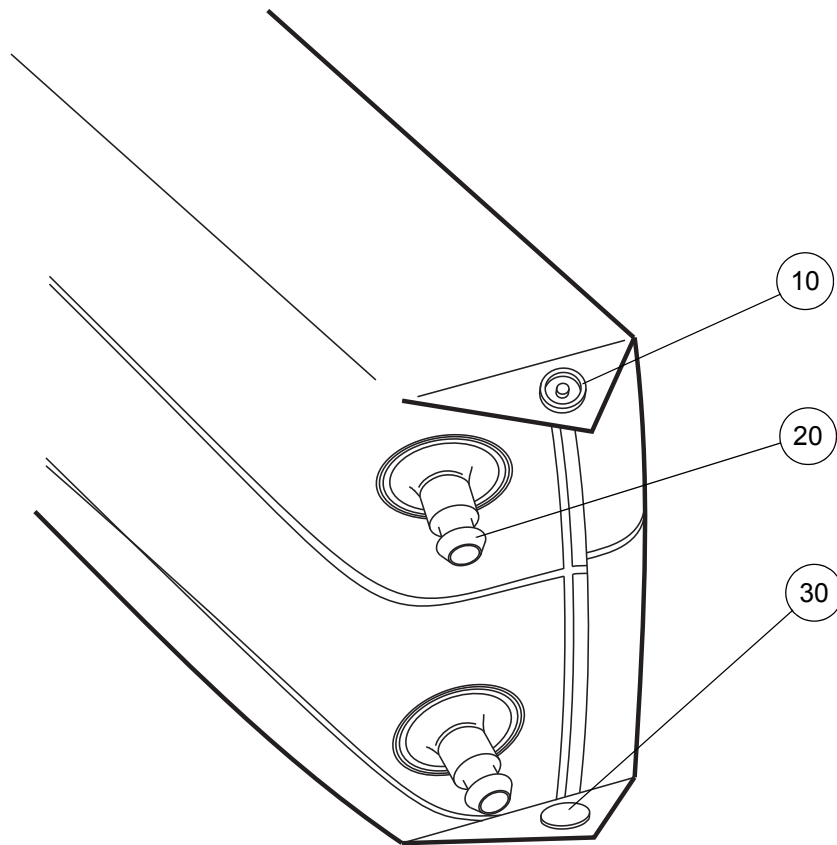

Figure 34 - Cell pop studs and connectors
- 7.2 Disconnect the four pop studs (two either end) located on the cell corner flaps (Fig 34, Items 10 and 30).
- 7.4 Disconnect the connector(s) (Fig 34, Item 20) from the manifold assembly.
- 8.5 Push the cell connector(s) (Fig 34, Item 20) fully into the manifold assembly.
- 8.6 Connect the two pop studs (Fig 34, Item 10) at the top of the cell to the mattress.
- 9.3 Disconnect all the upper pop studs (Fig 34, Item 10) on the cell corner flaps from the manifold assembly.
- 9.4 Disconnect all the cell connector(s) (Fig 34, Item 20) from the manifold assembly.
- 9.5 Disconnect all the lower pop studs (Fig 34, Item 30) on the cell corner flaps from the manifold assembly.
- 10.3 Connect the Cell connectors (Fig 34, Item 20).
- 10.4 Connect the Upper pop studs (Fig 34, Item 10).
- 17.2 Disconnect all the lower pop studs (Fig 34, Item 30) on the cell corner flaps from the manifold assembly.
- 17.5 Disconnect all the lower and upper pop studs (Fig 34, Items 10 and 20) on the cell corner flaps from the side of the loop sheet.
- 18.4 Feed the cells through their corresponding loops and connect the lower and upper pop studs (Fig 34, Items 10 and 20) on the cell corner flaps to the side of the loop sheet.